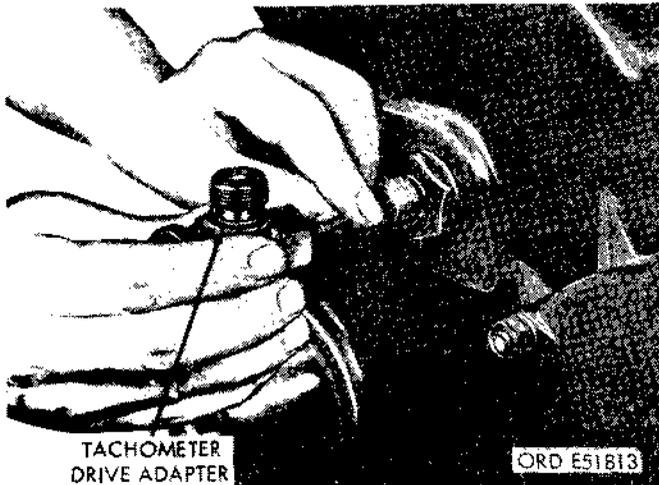

Figure 2-163. Removing tachometer drive adapter.
(1) From inside the cab, remove the two screws securing the dimmer switch (22, fig. 2-163) to the underside of the toeboard.
(2) Disconnect the three bayonet type connectors on the switch cables, and remove the switch from the vehicle.
a. Removal (fig. 2-163)
- (1) Remove the tachometer drive adapter and drive shaft from the tachometer takeoff adapter.
- (2) Remove the tachometer takeoff adapter and the adapter gasket.
b. Installation (fig. 2-163).
- (1) Position the gasket and install the takeoff adapter in place.
- (2) Install the drive adapter and shaft to the takeoff adapter.